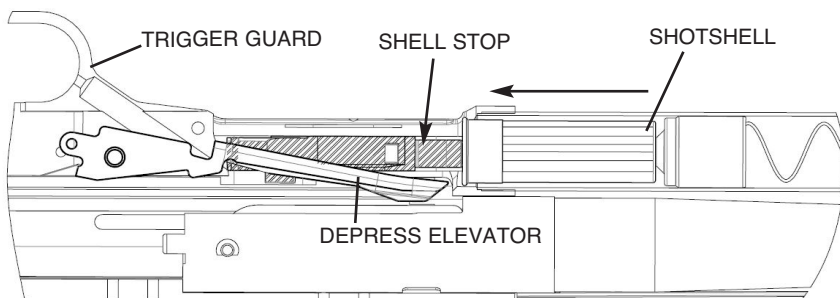

Figure 8
1. First, remove the shotshells from the magazine tube. With the safety button fully rearward in the “ON” (SAFE) position, turn the firearm so that the trigger guard is facing upward (Figure 8).
2. Keeping the muzzle pointed in a safe direction, depress the elevator (Figure 8).
3. While holding the elevator down with your thumb, press and release the shell stop (Figure 8). This will release one shotshell from the magazine tube under spring pressure.